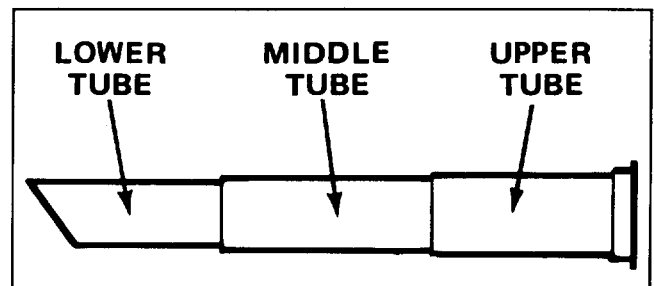

Figure 3
3. Slide upper middle and lower vacuum tubes together as shown in Figure 3.